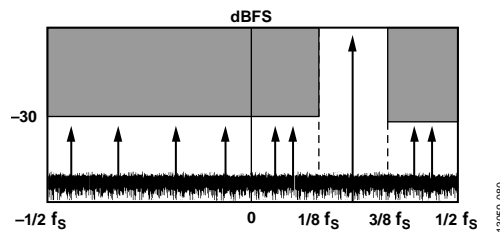
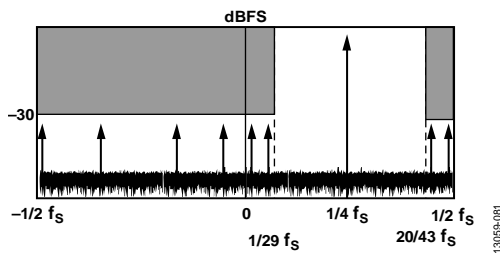

Figure 82. 25% VDR Bandwidth, Complex Mode
Figure 83. 43% VDR Bandwidth, Complex Mode
The complex mode of VDR works with selectable bandwidths of 25% of the sample rate (50% of the Nyquist band) and 43% of the sample rate (86% of the Nyquist band). Figure 82 and Figure 83 show the frequency zones for VDR in the complex mode. When operating VDR in complex mode, place in-phase (I) input signal data in Channel A and place quadrature (Q) signal data in Channel B.
Figure 82 shows the frequency zones for the 25% bandwidth VDR mode with a center frequency of  $f_s/4$  (tuning word = 0x04). The frequency zones where the amplitude may not exceed -30 dBFS are the upper and lower portions of the Nyquist band extending into the complex domain.
Table 33 and Table 34 show the tuning words and frequency values for the 43% complex mode. Table 33 shows the relative frequency values, and Table 34 shows the absolute frequency values based on a sample rate of 491.52 MSPS. Figure 83 shows the frequency zones for the 43% BW VDR mode with a center frequency ( $f_{VDR}$ ) of  $f_s/4$  (tuning word = 0x04). The frequency zones where the amplitude may not exceed -30 dBFS are the upper and lower portions of the Nyquist band extending into the complex domain.